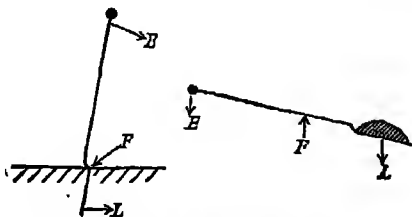

FIG. 138. A spade as a lever
3. A **spade** used as shown in Fig. 138.